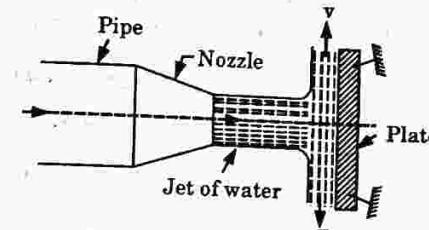

Fig. 4.3.1. Force exerted by jet on vertical plate.
1. Consider a jet of water coming out from the nozzle, strike a flat vertical plate as shown in Fig. 4.3.1.